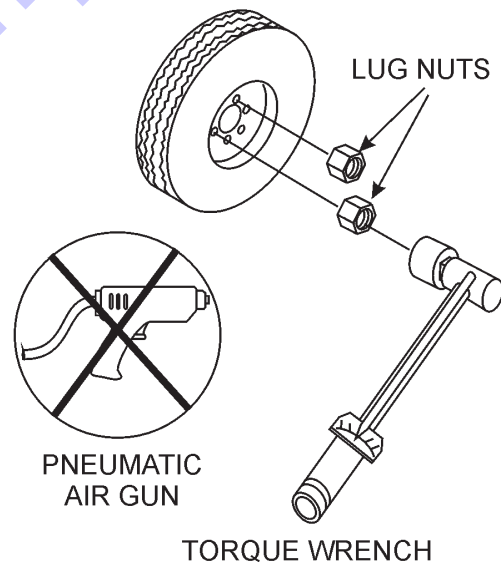

Figure 35. Wheel Lug Nuts Tightening Sequence
- Torque all lug nuts in sequence. See Figure 35. **DO NOT** torque the wheel lug nuts all the way down. Tighten each lug nut in 3 separate passes as defined by Table 9.
The rigid type axle and associated hardware (Figure 35) should be periodically inspected for signs of excessive wear, elongation of bolt holes, and loosening of fasteners. Replace all damaged parts immediately.